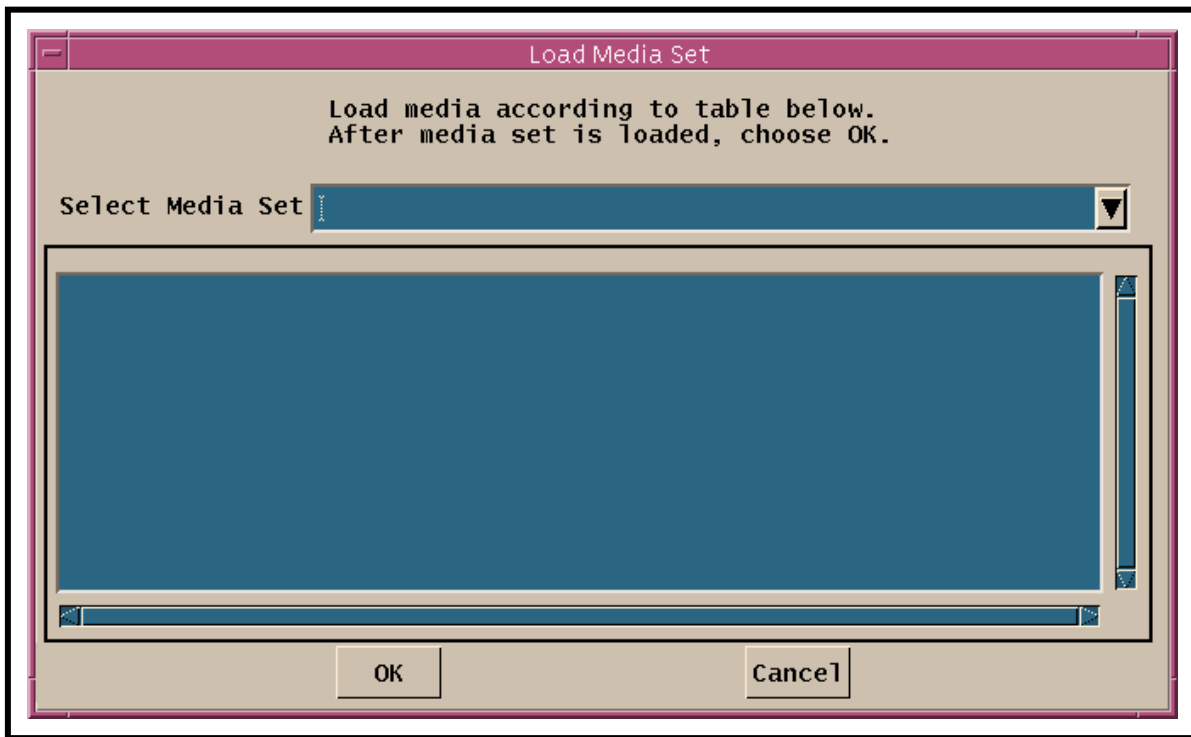

Figure 26. Load Media Set Window
- If **Load Media Set** is selected, a **Load Media Set** window (Figure 26) is displayed.